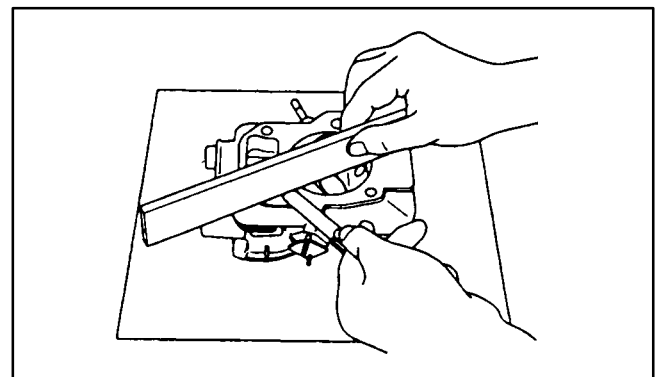

FIGURE 9-19. CYLINDER HEAD FLATNESS
1. Clean the cylinder head surface and measure flatness with a straight edge and feeler gauge (Figure 9-19).